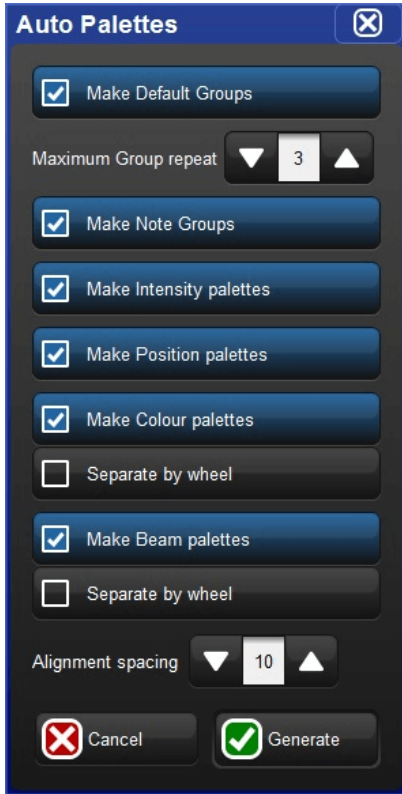

Figure 5.11. The Auto Palettes window
2. Click on the Auto Palettes button (located in the toolbar at the top of the Fixture window) and select from the options in the Auto Palettes window; see Figure 5.11, "The Auto Palettes window".